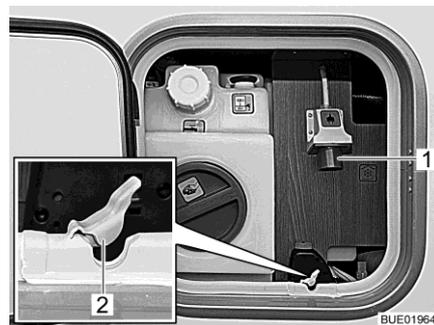

Fig. 188 230 V connection on the vehicle
- Open the seal (Fig. 188,2) of the cable feedthrough.
- Plug the plug connector into the 230 V connection (Fig. 188,1) of the vehicle.
- Unplug the plug connector from the connection (Fig. 188,1) of the vehicle and remove the connecting cable.
- Press the seal (Fig. 188,2) of the cable feedthrough into the recess of the service flap gasket.